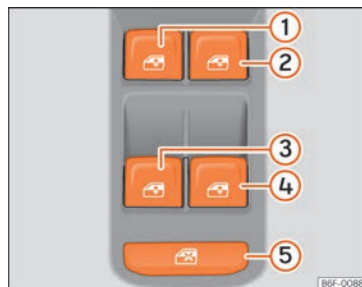

Fig.140 Detail of driver door: controls for the front and rear windows (vehicles with front and rear electric windows).
The safety switch  **Fig. 140 ⑤** on the driver door can be used to disable the electric window buttons on the rear doors.
Buttons >>> Fig. 140 , ,  and  have two positions for opening windows and two for closing them. This makes it easier to open and close windows to the desired position.